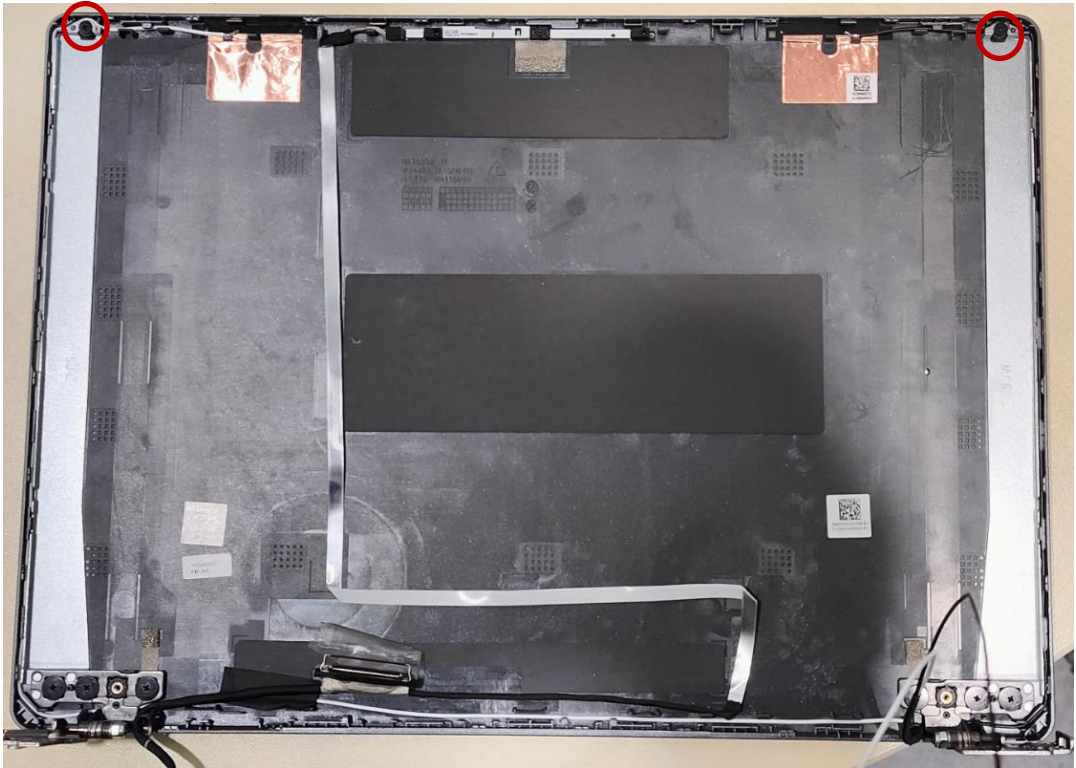

Figure 3-47. LCD Hinges Removal
3. Remove 2 screws securing the LCD hinge to the LCD cover (Figure 3-47).